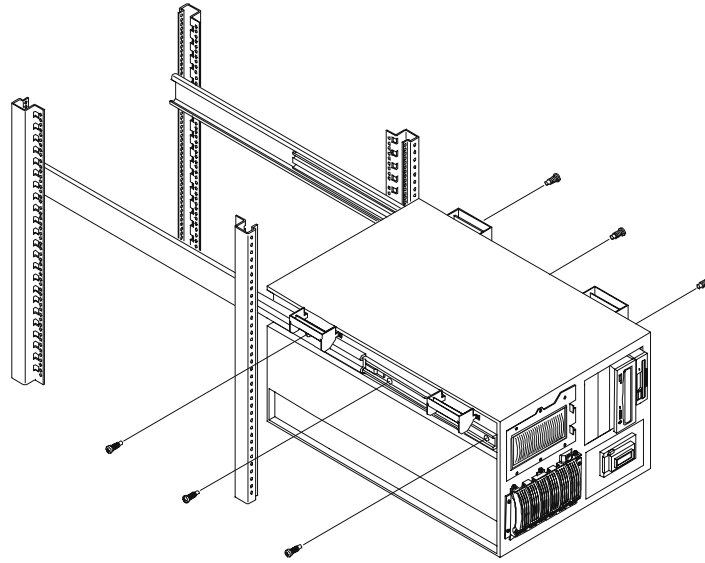

Figure 8-11. Securing the HP NetServer to the Slides
7. Reset the HP NetServer handles on the slides and then line up the mounting holes in the HP NetServer chassis with the screw holes in the slides (see Figure 8-11).